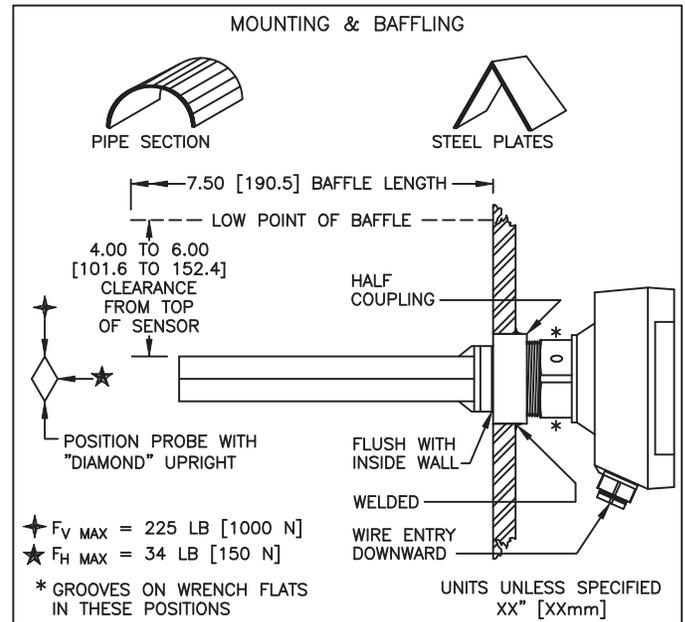

Figure 2
**Choosing a Location:** (See Figure 2)
**Protective Baffles:** (See Figure 2)
**Probe Mounting:** (See Figure 2)